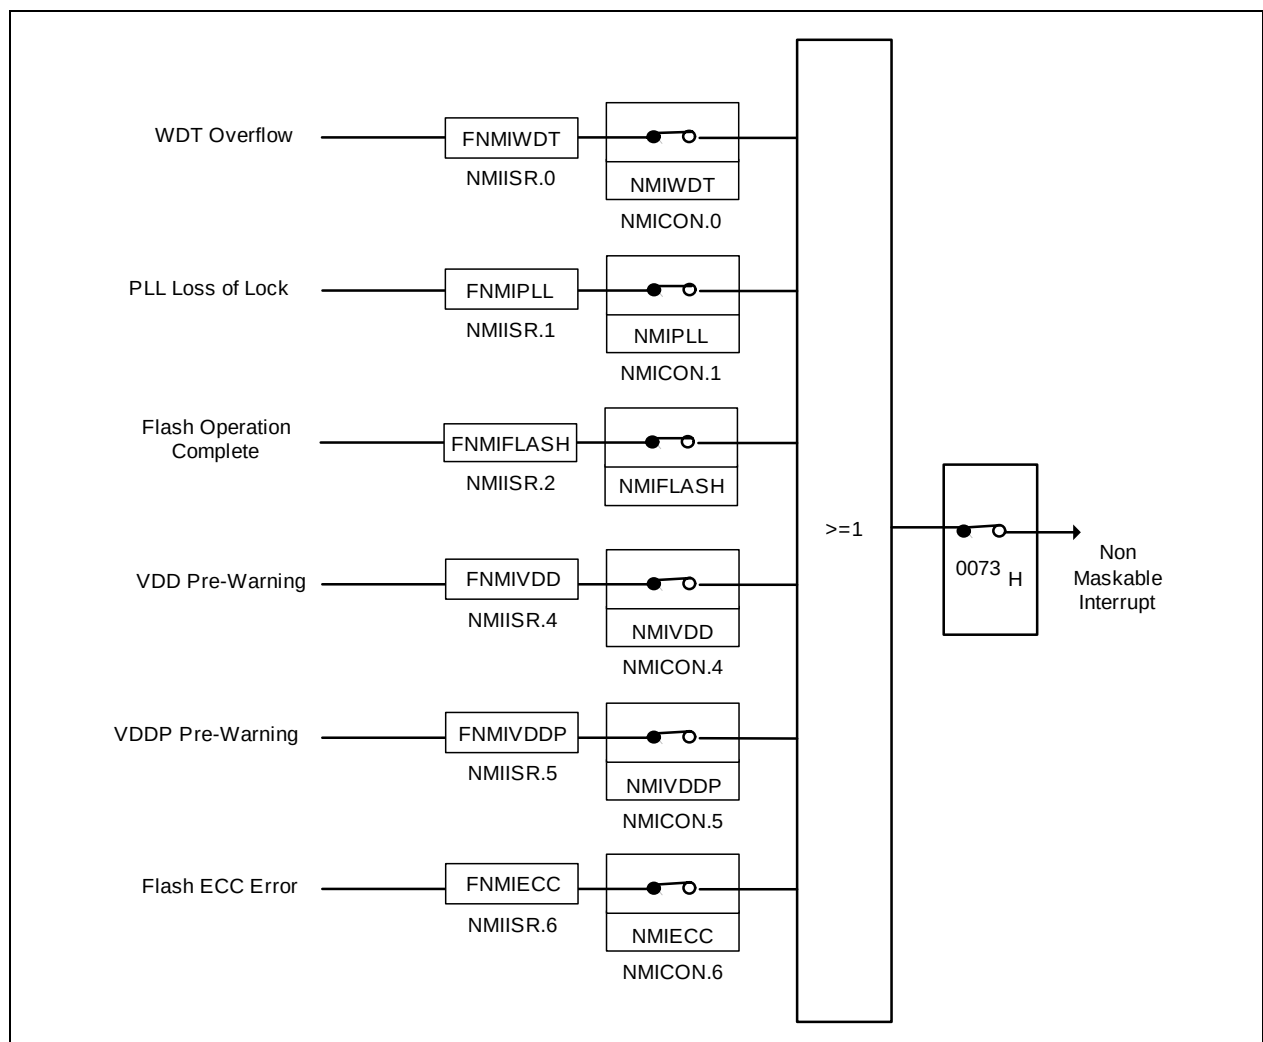
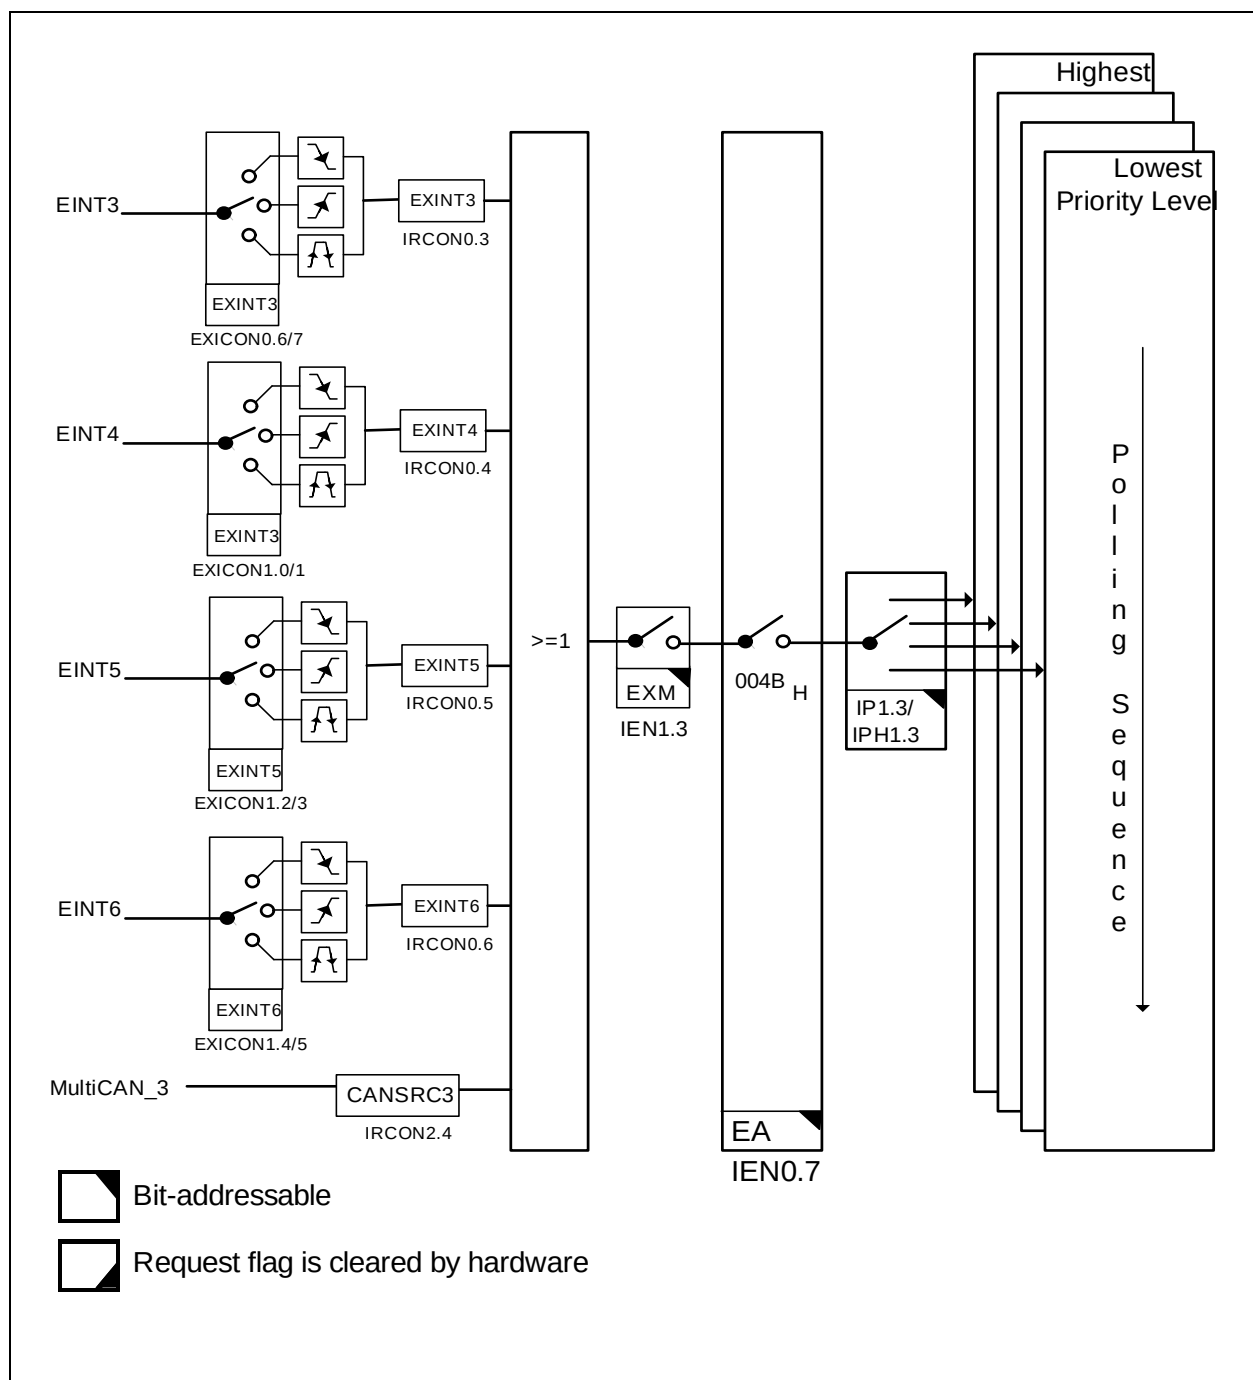

**Figure 12 Non-Maskable Interrupt Request Sources**
Figure 16 Interrupt Request Sources (Part 4)
**Figure 12** to **Figure 16** give a general overview of the interrupt sources and nodes, and their corresponding control and status flags.